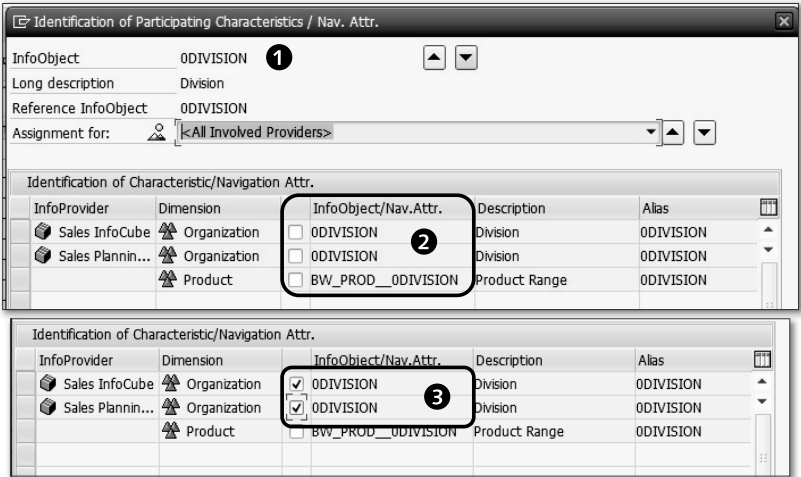

Figure 6.11 Edit MultiProvider: Identifying Characteristics from Multiple InfoCubes
Now let's discuss the options for including characteristics in a MultiProvider, such as including characteristic 0DIVISION (see ❶ of Figure 6.11). 0DIVISION from the SALES INFOCUBE can be matched with 0DIVISION and BW_PROD_0DIVISION (0DIVISION is the navigation attribute of BW_PROD) from the SALES PLANNING CUBE ❷. You need to decide whether you want to match the 0DIVISION characteristics of InfoCube BWSD_C01 with the 0DIVISION characteristics of InfoCube BW_PLAN or with the 0DIVISION navigation attribute of BW_PROD. Select 0DIVISION characteristics from both of the InfoCubes ❸.